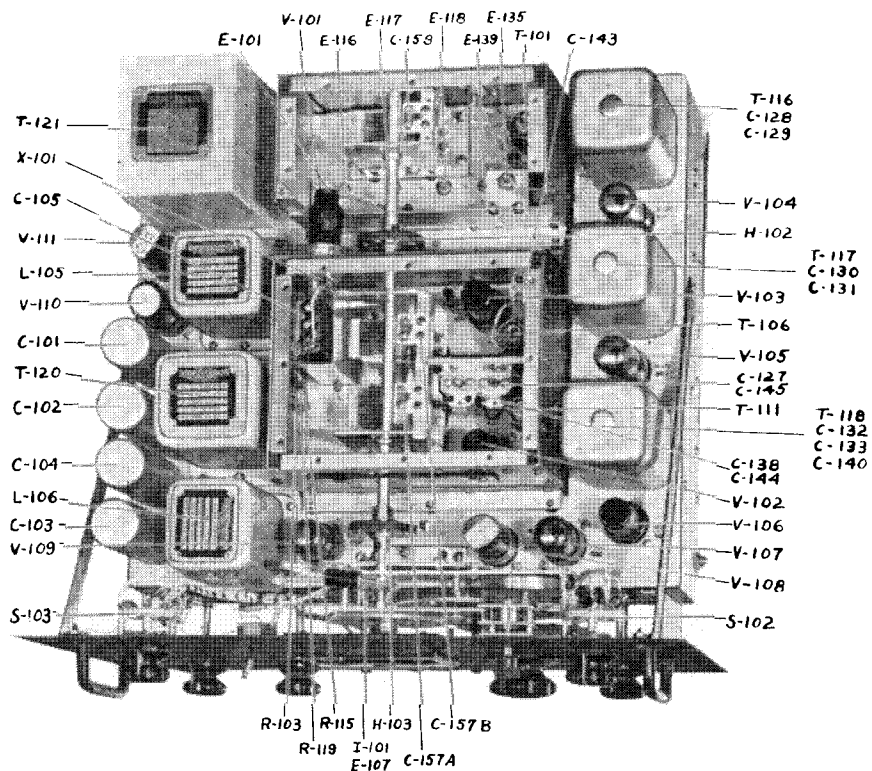
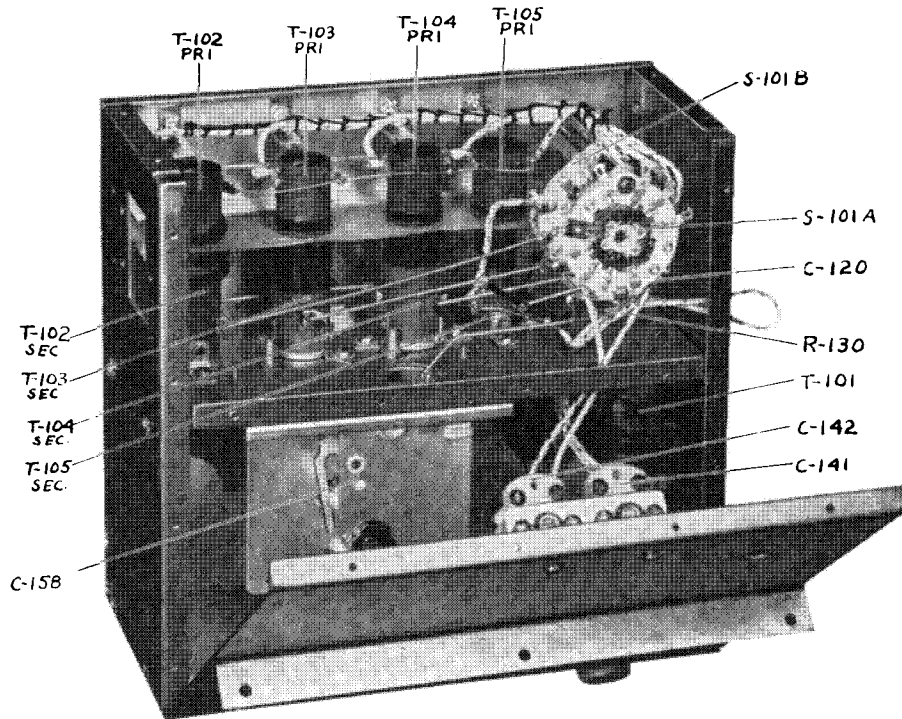
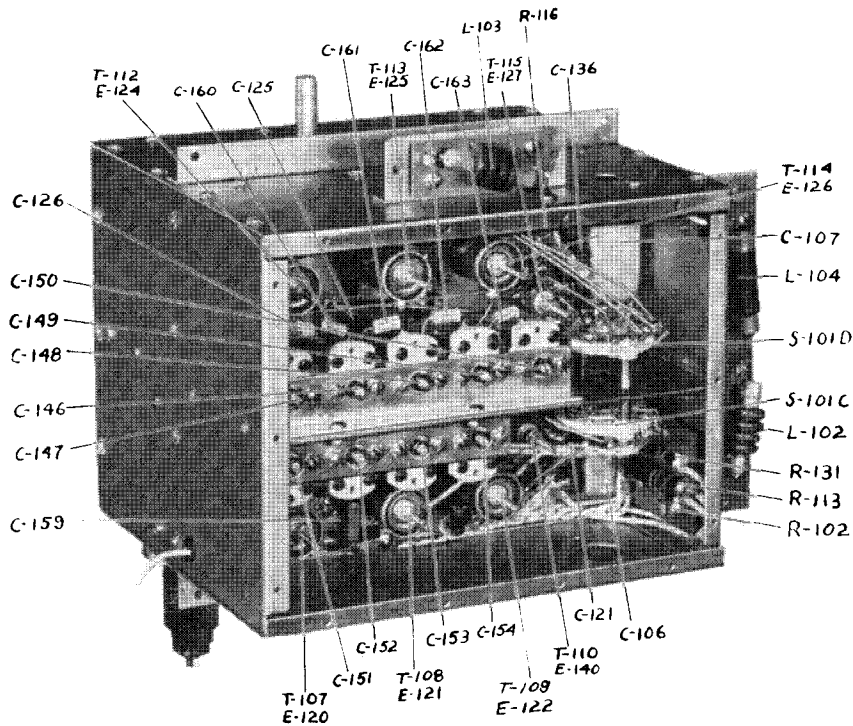

FIG. 2.13 TOP VIEW RADIO RECEIVER CHASSIS
FIG. 2.18 LEFT OBLIQUE INVERTED VIEW, ANTENNA COMPARTMENT
FIG. 2.19 BOTTOM OBLIQUE VIEW, R.F. AND H.F. OSC. COMPARTMENT
2.15 The construction of the chassis assembly and the arrangement and mounting of the component parts are clearly depicted in Figures 2.13 and 2.15. All vacuum tubes are accessible from the top side of the chassis upon removal of the chassis from the cabinet. The design and construction of the chassis assembly, and the arrangement of the component items mounted thereon, provides a high degree of accessibility to all items for inspection, servicing, or replacement. A bottom cover plate not shown in Figures 2.13 and 2.15, completely encloses the bottom of the chassis proper. It is provided as an added shielding feature, and for protection of the under side chassis mounted components against damage due to careless handling. It is secured to the chassis with machine screws so that it is readily removable, as and when necessary to make repairs or to effect replacement of chassis mounted components.
2.18 A separate shielded compartment, designed as a complete sub-assembly and easily detachable, as such, from the chassis for inspection and servicing of the component parts which it houses, contains all the circuit elements between the antenna input and the signal grid of the R.F. amplifier tube. This sub-assembly, as pictured in Figures 2.13 and 2.15, is mounted at the rear center of the chassis, and is centrally disposed, above and below the chassis, through an aperture in the chassis. The compartment is grounded at only certain points on the chassis and since the mounting flanges are insulated from the chassis this ground constitutes the only grounding for the compartment. Details of the construction of the shielded compartment and the arrangement and mounting of the component parts, which it contains, are shown in Figure 2.18. The Figure depicts an oblique rear view of the shielded compartment with the side removed or opened to display the internal components. The compartment as pictured, is inverted with respect to its normal position in the receiver.
2.19 A second shielded compartment, constructed and mounted in the same manner as that containing the antenna circuit elements, but larger in overall dimensions, contains all of the circuit elements from the R.F. amplifier tube to the first I.F. amplifier input transformer, and includes also, all circuit elements associated with the high frequency oscillator. This compartment, as pictured in Figures 2.13 and 2.15, is mounted on the chassis between the front panel and the compartment containing the antenna input circuit elements. The arrangement and mounting of the circuit components are depicted in Fig. 2.19 which portrays an oblique view of the sub-assembly with the bottom cover plate removed to show the disposition of the internal circuit components. This view depicts the sub-assembly in an inverted position with respect to its normal position in the receiver. Circuit components, associated with the compartment sub-assembly, and not visible in Figure 2.19, are shown in Figure 2.13 which shows the two compartment sub-assemblies, described above, mounted in their normal positions, but with their top shield cover plates removed.
2.110 Insulated mechanical couplings are employed for joining together the shafts of the main tuning capacitors and the dial. These couplings are shown in Figure 2.13. The R.F. tube is mounted in a horizontal position in a socket which is provided with a clamp for securing the tube in place. The socket is mounted on one side wall of the large compartment and all wiring thereto is contained within the shielded compartment. The vacuum tube then projects into the side of the compartment containing the antenna circuit components, and connection to the signal grid cap is made within the confines of this compartment. The internal shields in the vacuum tube isolates the signal grid circuit from the plate circuit, and in effect completes the shielding of the antenna circuit compartment so that these circuits are electrically isolated from the plate circuit of the R.F. amplifier